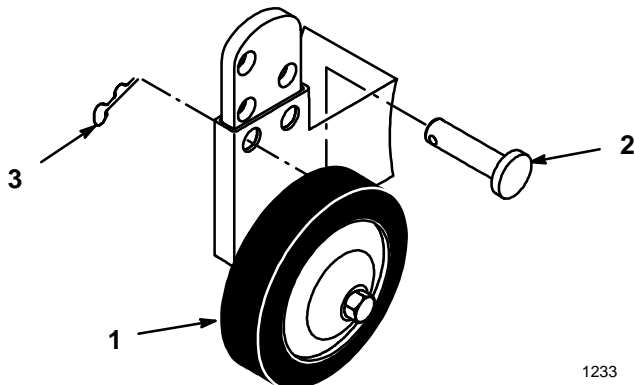

Figure 28
2. To adjust wheel height off the ground, remove the hairpin cotter and pin to change hole location (Fig. 28).
3. Select a hole position so the wheel is approximately 3/8" (9.5 mm) off the ground for the height-of-cut position to be used (Fig. 28).